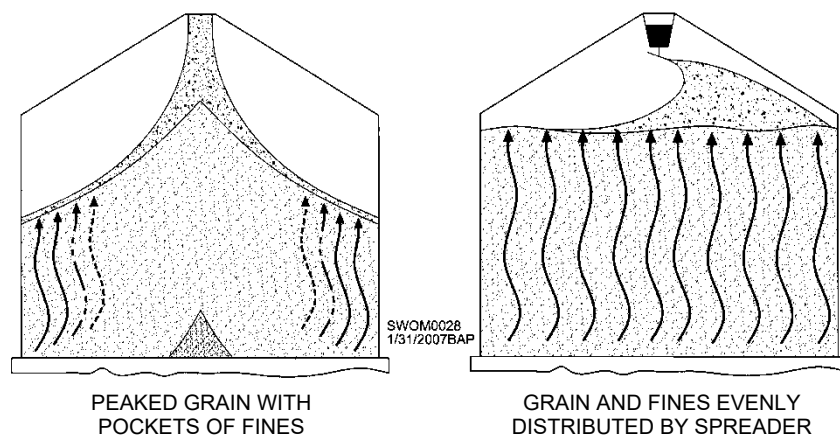

Fig. 3
- **Grain Spreaders** are available for bins up to 60' diameter and provide a more level grain surface in bin. Peaked grain produces uneven airflow in bin. Also, fines and foreign material in grain tend to gather in center of bin. These fines contribute to airflow resistance. Properly adjusted and operated grain spreaders will leave top surface of grain closer to level, with fines and foreign material more evenly distributed throughout grain mass. Level surface and more evenly distributed fines result in uniform airflow throughout the bin. See Fig. 3.